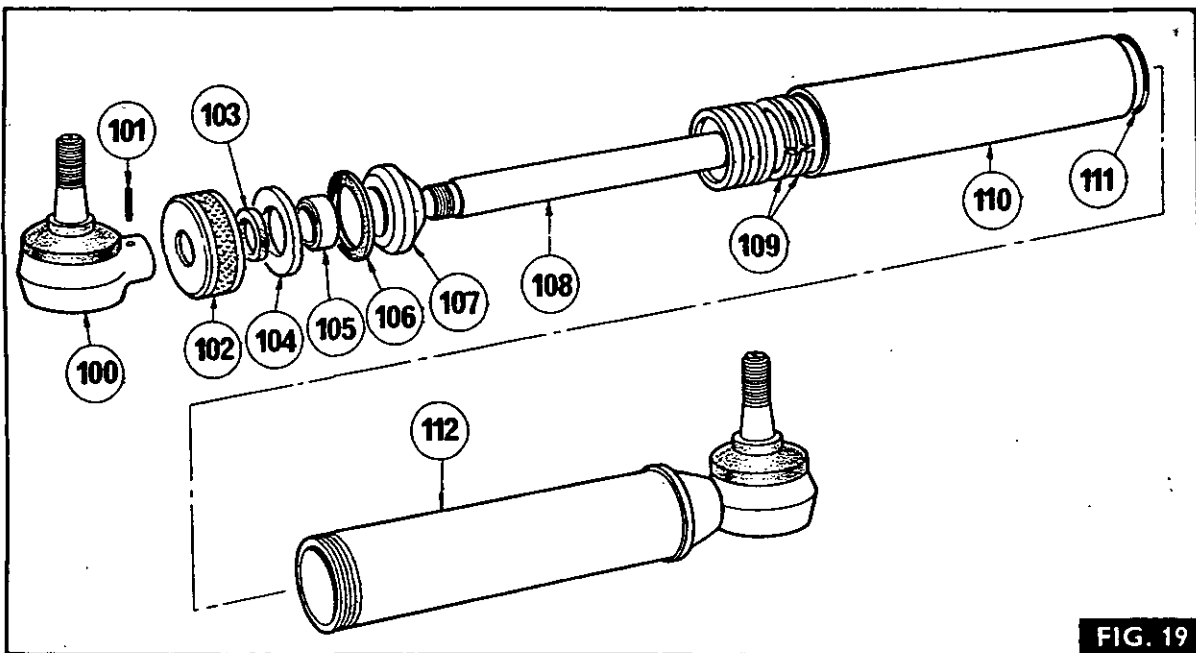

FIG. 19
3. Fig. 19. Unscrew the gland nut (102) and withdraw the piston assembly (108) together with the inner tube (110) from the cylinder assembly (112).
4. Remove the copper washer (111) from the cylinder assembly (112).
5. Withdraw the piston assembly (108) from the inner tube (110).
6. Remove the roll pin (101) and unscrew the ball end (100) from the piston assembly (108).
7. Remove the gland nut (102), seal (103), washer (104), 'O' ring (106), seal (105) and rod guide (107) from the piston (108).
8. If necessary, remove the piston rings (109) from the piston.